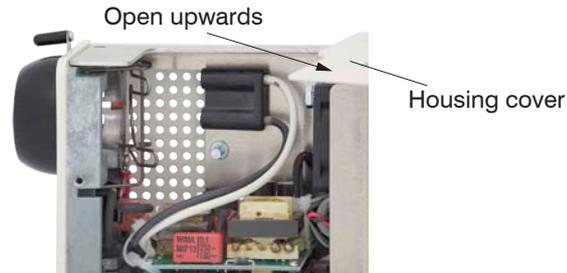

Fig. 10 Opening the cover
- ➡ Open the housing cover upwards to have access to the xenon lamp, see Fig. 10.